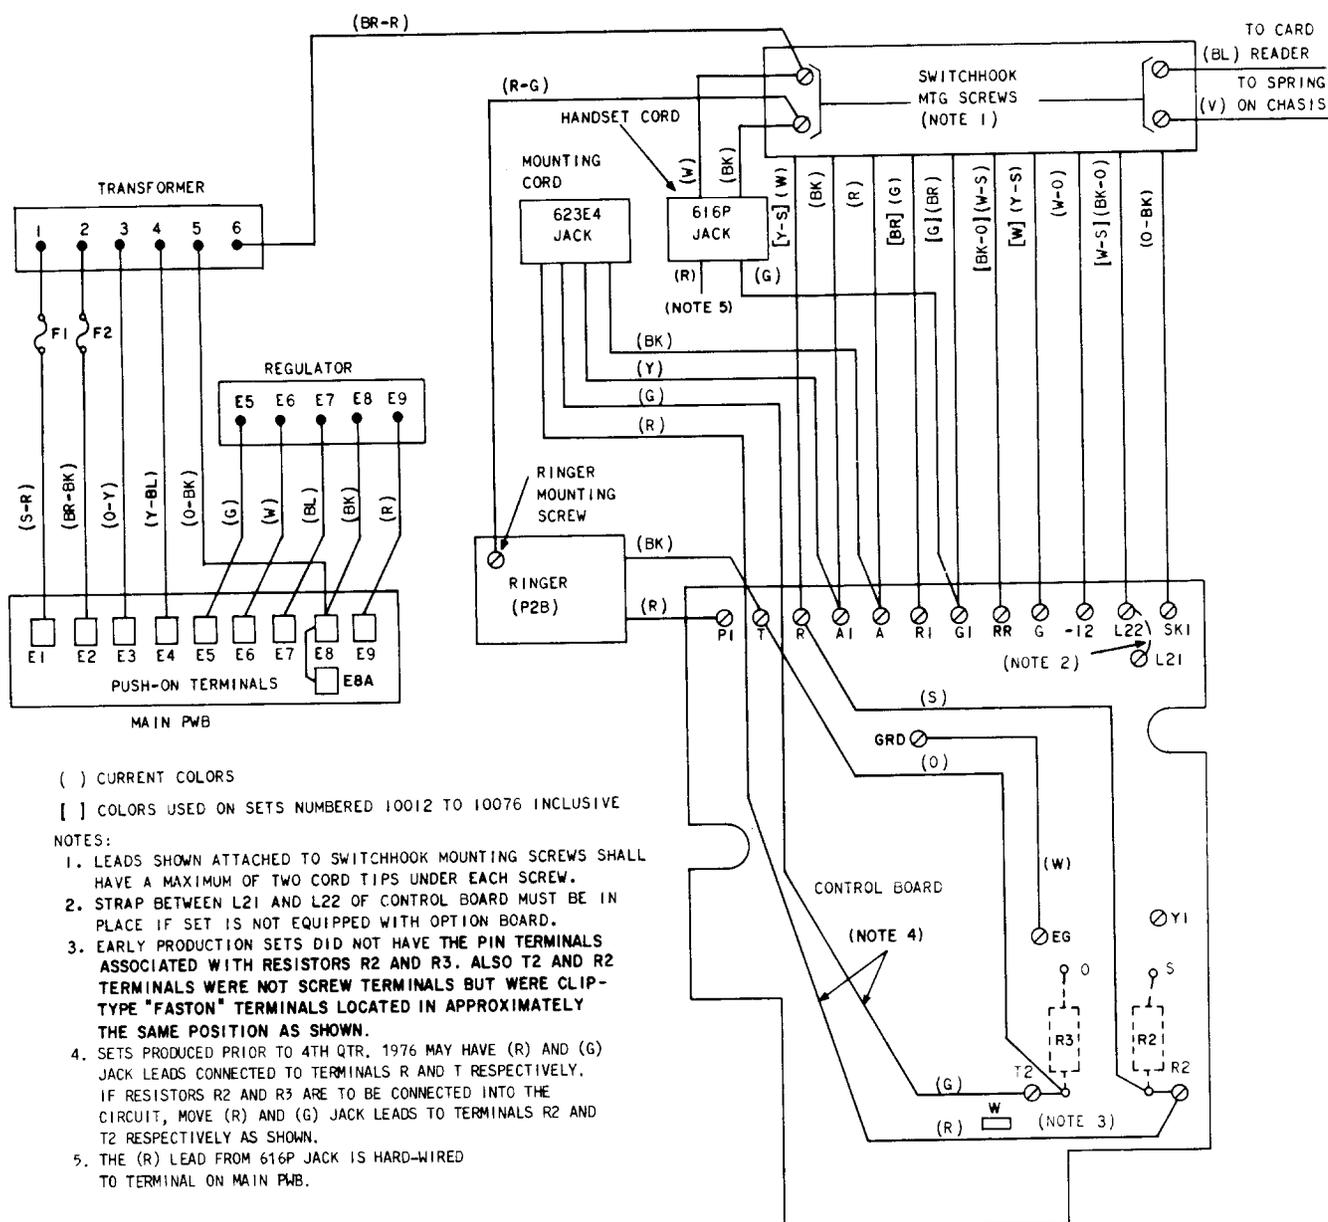

Fig. 9—Partial Schematic Showing Conductors Attached by Screws or Push-On Terminals
(d) Connect the slate (S) spade-tipped mounting cord conductor to terminal Y1 on the control board (Fig. 9).
(e) Connect the white (W) spade-tipped mounting cord conductor to terminal W on the control board (Fig. 9).
- (c) Check for loose wire or connections on main PWB or control board (Fig. 9).